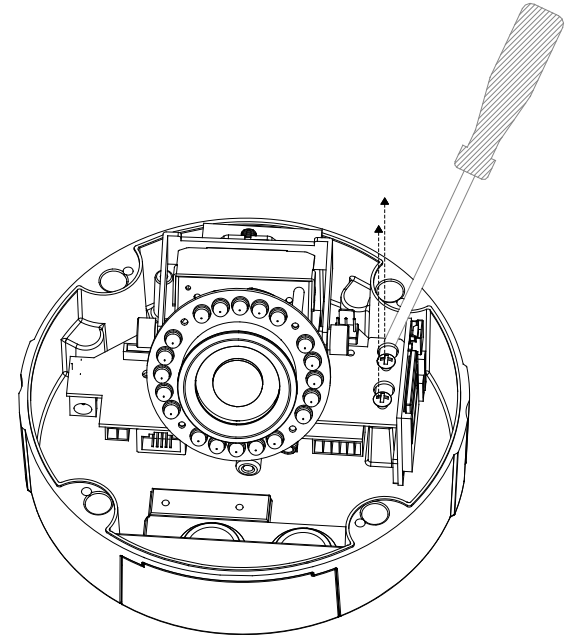

Figure 1.1
2. Loosen, but do not remove, the two screws that secure the camera bracket to the base of the enclosure using a screwdriver. (Figure 1.1)